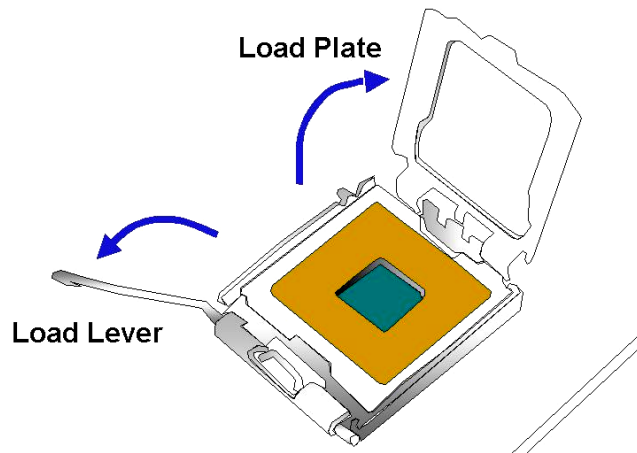

Figure 4-3: Open the CPU Socket Load Plate
Step 2: Open the socket. To open the socket, disengage the load lever by pressing the lever down and slightly outward to clear the retention tab. Rotate the load lever to a fully open position. Then rotate the load plate towards the opposite direction. (See **Figure 4-3**)